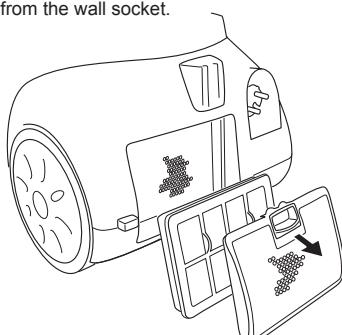

Figure 13      *Removing the exhaust filter*
2. Open the exhaust-filter cover by pulling on the lip on the cover. Remove the exhaust filter from the appliance, see Figure 13.